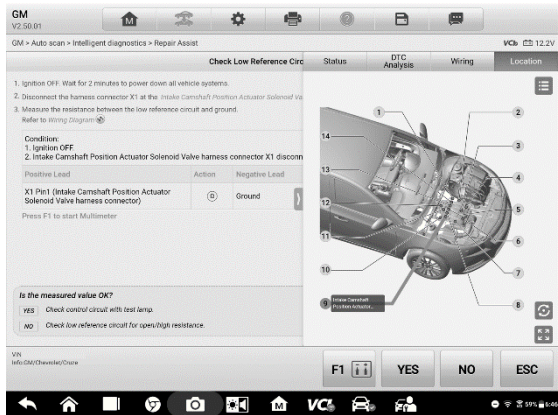

Figure 5-24 Sample Repair Assist Screen 5
5. In some cases, it is necessary to check the circuits. Take **Figure 5-24** for example, tap the first **Link icon** to open the *Location Diagram*, and it will show the location of the component *Intake Camshaft Position Actuator Solenoid Valve* in the car.